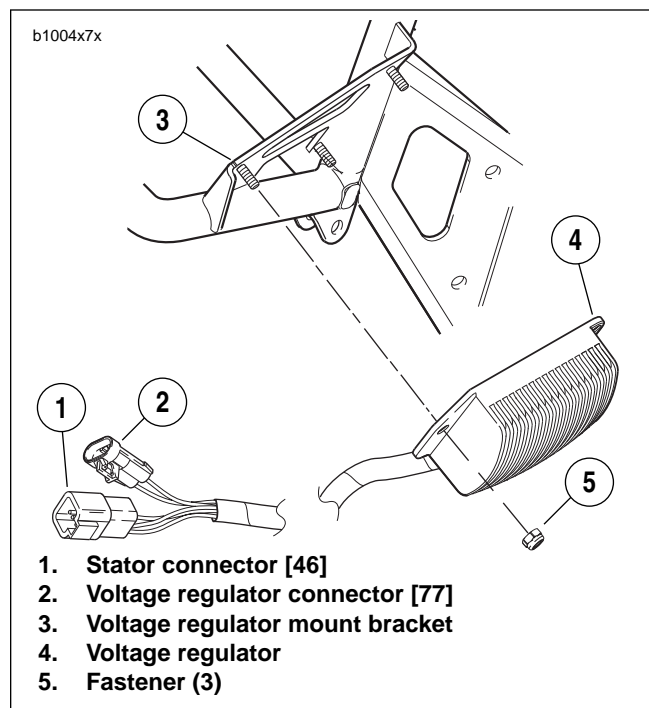

Figure 7-39. Voltage Regulator
3. See Figure 7-39. Disconnect stator connector [46] (1) and voltage regulator connector [77] (2) located under sprocket cover. See 7.26 SPROCKET COVER WIRING.
4. Remove fasteners (5) and voltage regulator (4) from bracket (3).
1. See Figure 7-39. Attach **new** voltage regulator (4) to bracket (3). Tighten **new** fasteners (5) to 36-60 in-lbs (4.1-6.8 Nm).
2. Connect stator connector [46] (1) and voltage regulator connector [77] (2) located under sprocket cover. See 7.26 SPROCKET COVER WIRING.